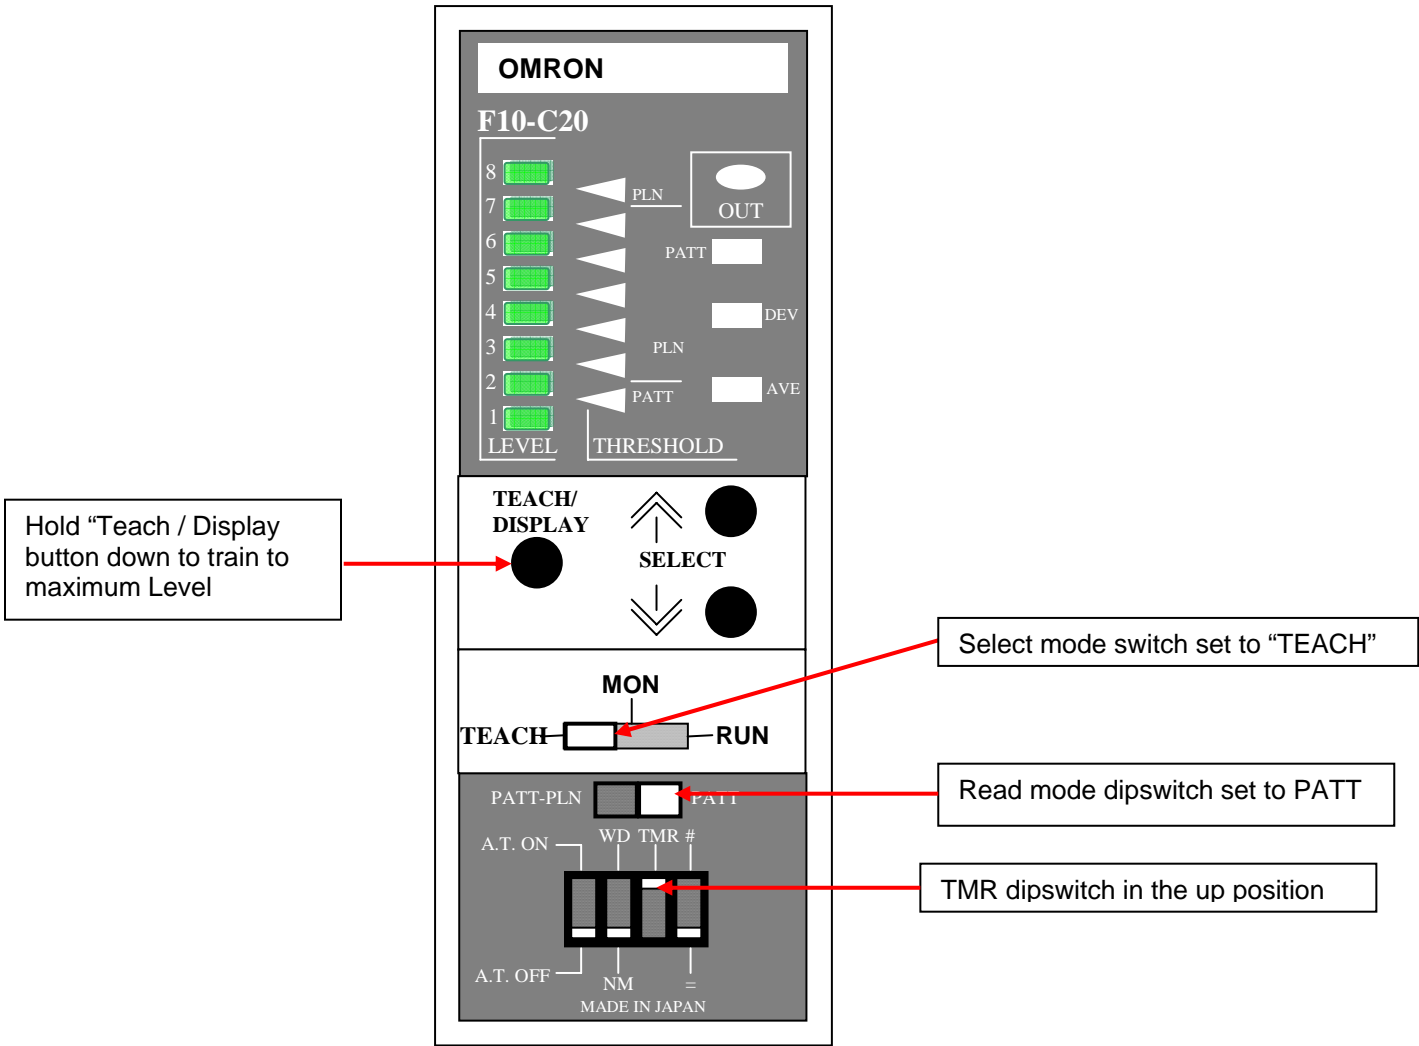

Fig. 3-1
≠ / =	OFF – (down) see figure 3-1.
- b. Set the Read Mode to "PATT", see figure 3-1.
- d. Turn the Mode Select switch to "TEACH", see figure 3-1.